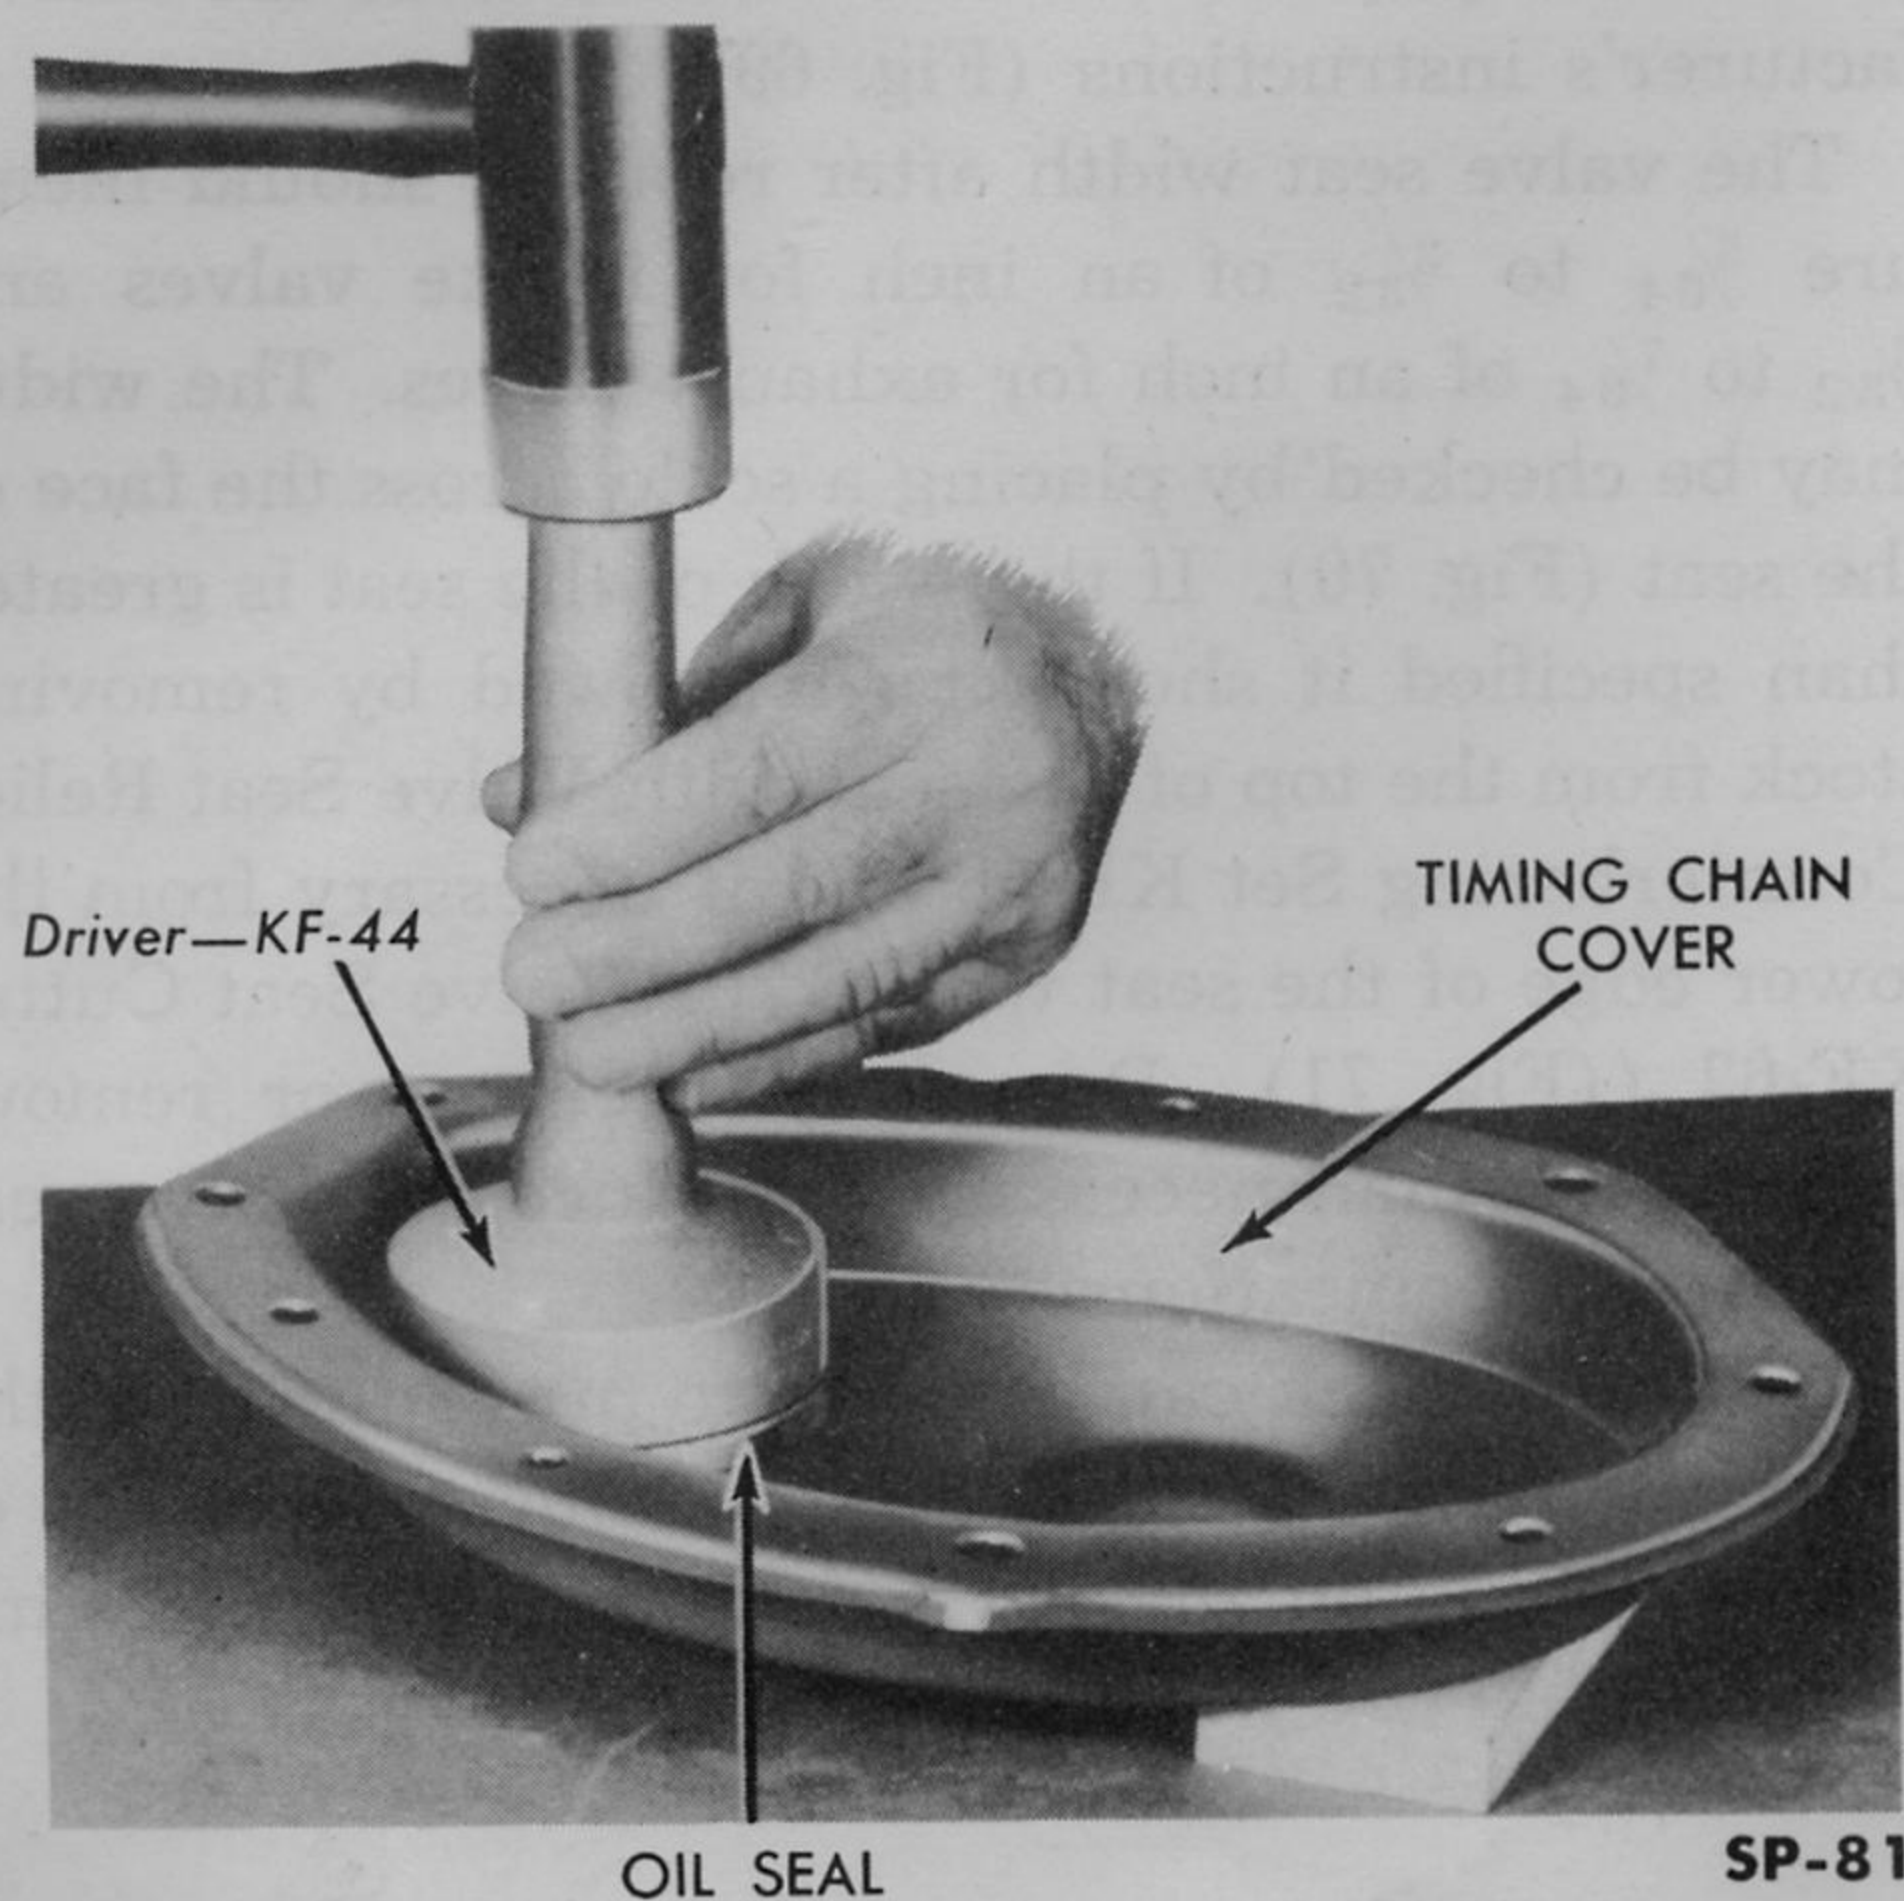

Fig. 65—Installing Timing Chain Cover Oil Seal
2. Timing Chain Cover Oil Seal. Drive out the old seal and replace with a new seal, using Oil Seal Driver KF-44 (Fig. 65). Install the seal so that the seal lip faces toward the rear of the cover.